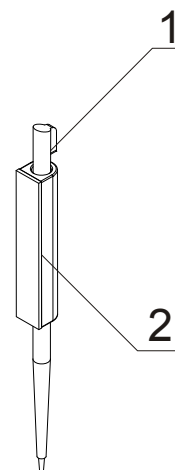

Fig.1
The function of the stylus (pos. 1, fig.1) is to facilitate and provide the safety operation of the touchscreen of fire control panel IFS7002 (IFS7002-4) and repeater IFS7002R.
The self-sticking support pad (pos.2, fig.1) allows it to be stuck in a convenient place.